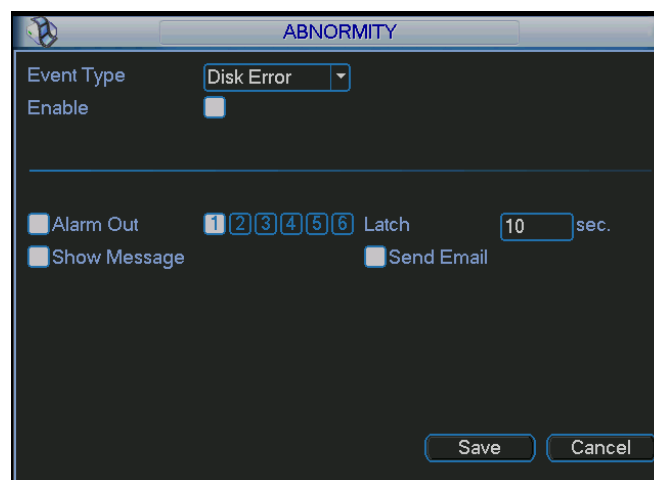

Figure 5-46
- z Alarm set: Click alarm set button, the interface is shown as below. See Figure 5-46. (This interface is just like the abnormality setup). Please refer to chapter 5.5.2 for detailed information.